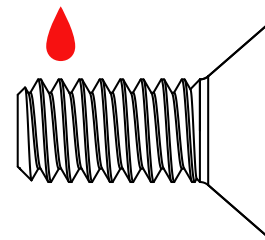

Figure 9
9. Apply Loctite® (9) onto new flathead screws (5) as shown in Fig. 9 and tighten the adapter back with 10 ft-lbs of torque.